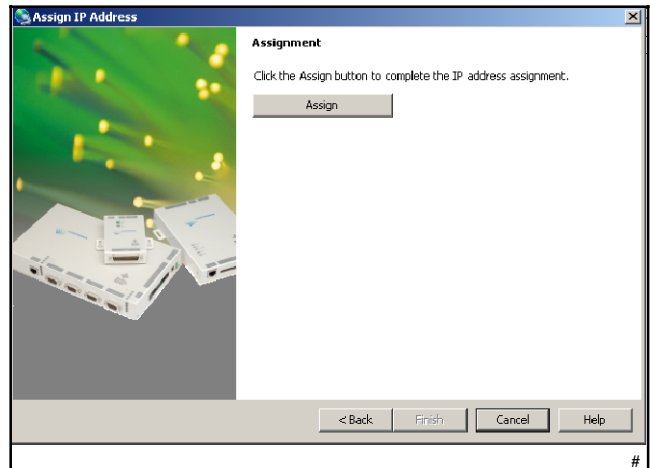

Figure 36 Assignment
10. Click the *Assign* button in the next window to assign the IP settings, or click *Cancel* to discard changes and close the wizard. See Figure 36.